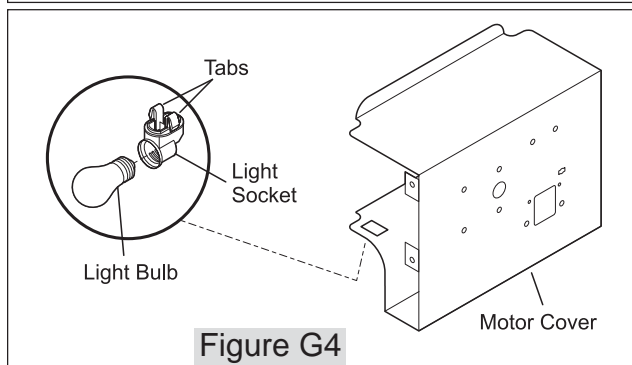

Figure G4
2. Slide Ice Container forward and off of Rail Assembly. Remove two (2) screws mounting the rail assembly to the Evaporator Cover.
6. Press in on two tabs on bottom of lamp socket base and push through mounting hole. (See Figure G4)